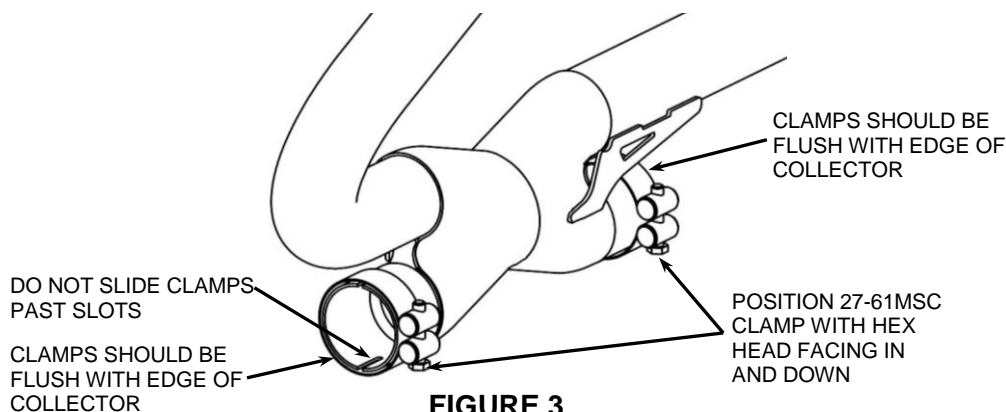

FIGURE 3
9. Position (2) of the supplied #27-61 MSC muffler clamps onto the rear headpipe collector assembly inlet and outlet. The hex head of both clamps should be inward and down. See **FIGURE 3**. (NOTE: The clamps should be flush with the end of the inlet and outlet when tightened. See **FIGURE 3**. If the clamps are slid past the slots on the inlet and outlet the clamps will not tighten properly).
16. Next fully tighten the (2) 27-61MSC clamps on the rear headpipe collector assembly. (NOTE: The clamps should be flush with the end of the crossover assembly inlets when tightened. See **FIGURE 3**. If the clamps are slid past the slots on the crossover assembly inlet the clamps will not tighten properly).